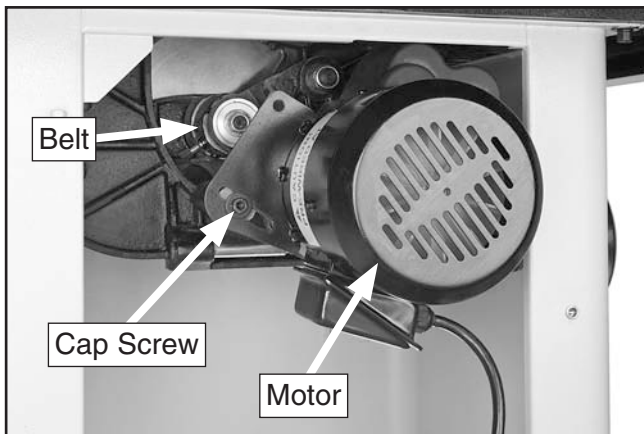

Figure 120. Motor mounting nut.
3. Loosen the cap screw on the motor shown in **Figure 120**, and pivot the motor up and down to make sure that it is movable.
3. Loosen the cap screw that secures the motor (see **Figure 120**) and lift the motor fully to remove tension on the belt. Tighten the cap screw to hold the motor in this position, then roll the belt off of the arbor and motor pulleys.